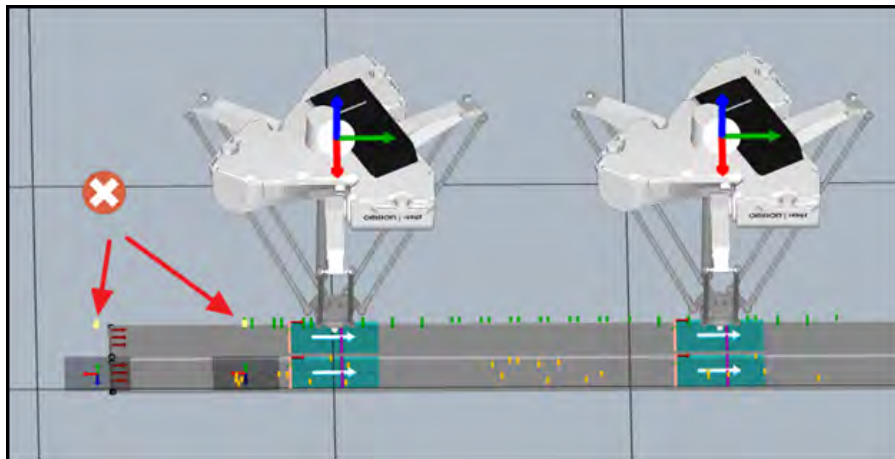
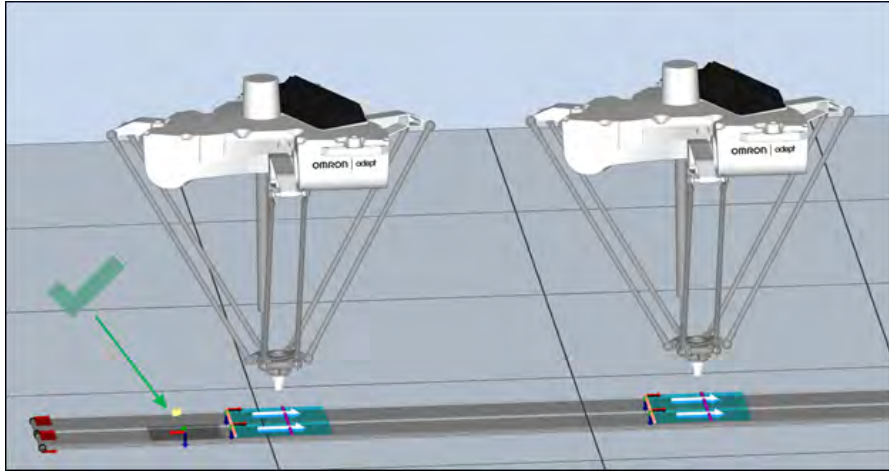

Figure 1-19 Latch Sensor Calibration - Incorrect Multi-Robot Teaching
Figure 1-20 Latch Sensor Calibration - Correct Multi-Robot Teaching
**NOTE:** When calibrating multiple robots to a single sensor, ensure the initial position of the calibration object is identical for each robot calibration to avoid large a deviation in part placement relative to a latched position. There should not be a large deviation in sensor position for a single detection source, as shown in Figure 1-19 below. Instead, the sensors should be close together, as shown in Figure 1-20 below. It is normal for there to be a small deviation due to differences between physical assemblies and ideal positions in 3D visualization.